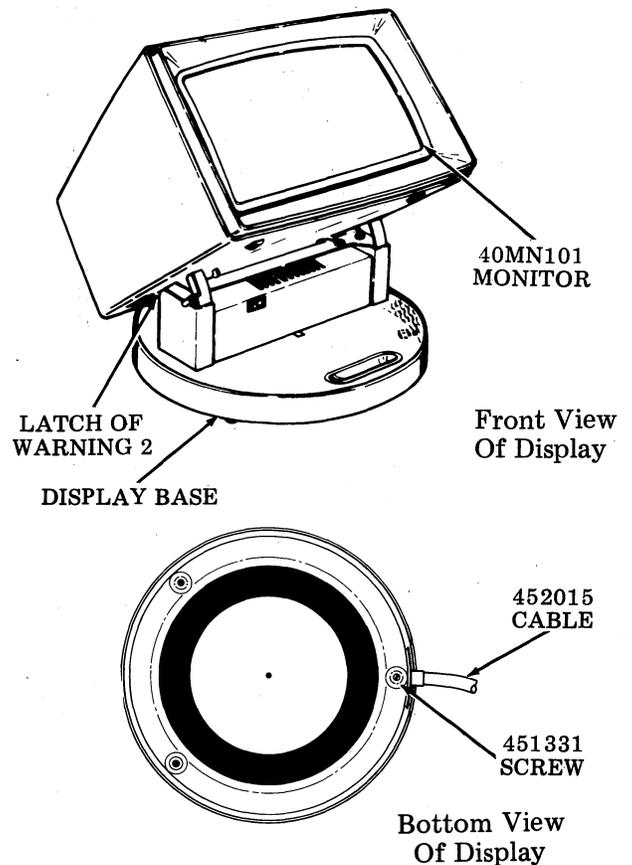

Fig. 86
Warning 2: A monitor manufactured before June 1979 can be lifted off without releasing any latches, however, a small metal latch on the top of the rear of the left leg of monitors manufactured after May 1979 must be released (pushed forward) to be able to lift off the monitor. See Fig. 86.
- ⑭ Connect cable to display base (if not already connected). Refer to Fig. 86.
- ⑮ Turn monitor and display base right side up. Remove clear plastic cover from monitor. Proceed to 3.56 (3).
- ㉒ If 452015 cable is furnished separately from display base, turn display base upside down and remove the 451331 screw. See Fig. 86. Connect cable to display, install and tighten the 451331 screw. Turn display base right side up.